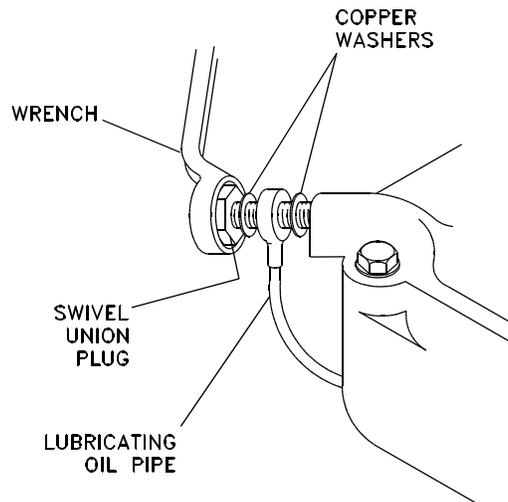

Figure 6-4. Removing Swivel Union Plug and Lubricating Oil Pipe
- (2) Using 10 mm open-end wrench, remove the four sets of nuts (11) and spring washers (12) from flywheel end cylinder head cover (2), being careful not to lose washers. Studs (10) may come out with nuts, especially if nuts are painted over. Remove lifting eye (13) and four spacers (14), being careful not to lose spacers.
- (3) Using a wrench as shown in Figure 6-4, remove swivel union plug and lubricating oil pipe from each cylinder head cover. Remove and discard copper washers.
- (7) (Refer to Figure 6-4) Reconnect lubricating oil pipes to cylinder head covers by reinstalling swivel union plugs (PN 601-30945) and new copper washers (PN 291-26090). Torque swivel union plugs to 36 in-lb.